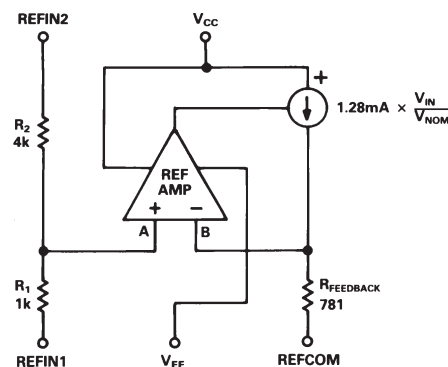
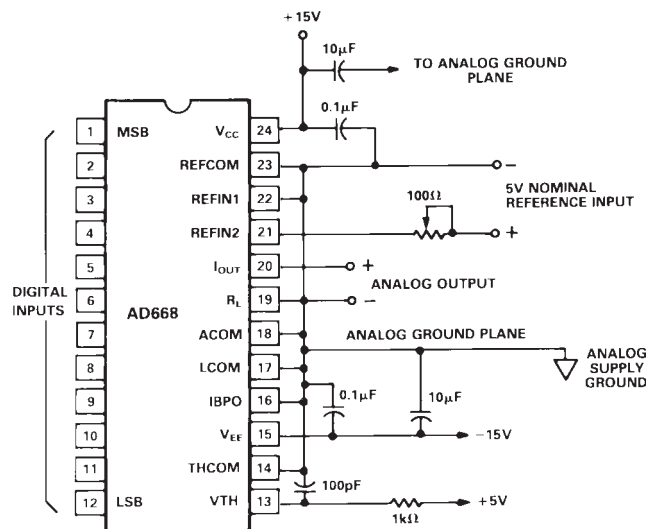

Figure 5. Equivalent Analog Input Circuitry
Figure 7. 5 V REFIN/1 V Unbuffered Unipolar Output
The reference input buffer can be viewed as a resistive divider connected to one terminal of an op amp, as shown in Figure 5. A unit DAC current source drives a resistor to produce a voltage that is fed back to the opposite terminal of the op amp. Resistor  $R_{FEEDBACK}$  is laser-trimmed to ensure that a 1 V input to node A of the op amp will produce a 10.24 mA DAC output.  $REFIN1$  and  $REFIN2$  may be configured in any way the user chooses to provide a nominal input full scale of 1 V at node A.  $R1$  and  $R2$  are sized and trimmed to provide both a 5:1 voltage divider and a parallel impedance that matches the impedance at node B, thereby reducing the amplifier offset voltage due to bias current. The resistive divider is trimmed with an external 50  $\Omega$  resistor in series with the 4k leg ( $R2$ ). This provides a gain trim range of  $\pm 1\%$  using a 100  $\Omega$  trim potentiometer (Figure 7). If trimming is not desired, a 50  $\Omega$  resistor may be used in place of the potentiometer to produce the specified gain accuracy, or the resistor may be omitted altogether to produce a nominal gain error of  $+1\%$ .
**REFCOM** – this node provides the reference ground for the reference amplifier’s current feedback loop (as illustrated in Figure 5) as well as providing the negative supply voltage for most of the reference amplifier. The current consists of 1.2 mA of analog input dependent current and another 3 mA of input independent current. Analog input voltages should always be produced with respect to this voltage.
**REFIN1** – has a 1k series resistance to the reference amplifier input and a 5k series resistance to REFIN2. REFIN1 may be used in conjunction with REFIN2 to provide a 5:1 voltage divider, or the two may be driven in parallel to provide a high impedance input node (see Figure 5).
Figure 7 shows a typical topology for generating an unbuffered voltage output. RL (Pin 19) is grounded, producing a 100  $\Omega$
The input divider has been connected to produce a 5 V full scale reference input by shorting REFIN1 to the analog ground plane and using REFIN2 as the reference input. With a 5 V nominal full scale, the 10% to 120% reference input range falls between 0.5 V and 6 V. The effective input resistance in this mode is 5 k $\Omega$  ( $\pm 20\%$ ). The ratio of the input divider has been intentionally skewed by 50  $\Omega$  to provide an optional external fine trim for gain adjust. A trim range of  $\pm 1\%$  is provided by the 100  $\Omega$  trimming potentiometer shown in Figure 7. If trimming is not desired, a 50  $\Omega$  resistor may be used in place of the potentiometer to produce the specified gain accuracy, or, if a  $\pm 1\%$  nominal gain error is tolerable, the resistor may be omitted altogether.